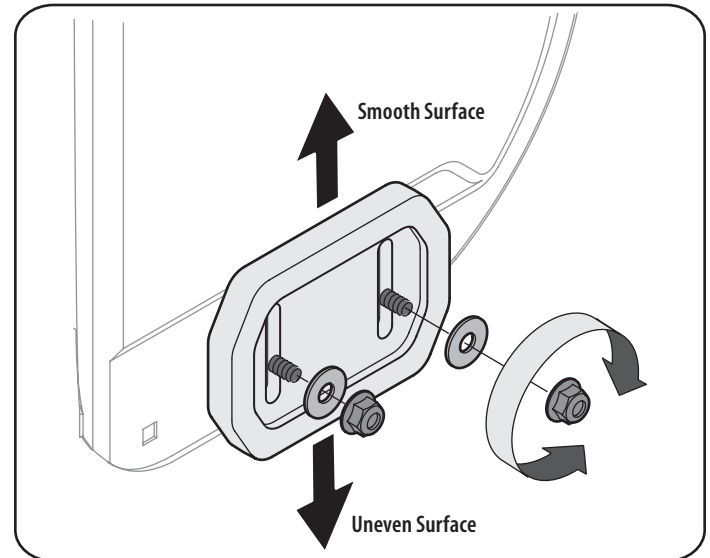

Figure 10
- For close snow removal on a smooth surface, raise skid shoes higher on the auger housing. Refer to Figure 10.
- Loosen the four hex nuts (two on each side) and carriage bolts. Move skid shoes to desired position. See Figure 10.